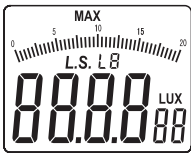

Figure 4
- Press and hold “MAX/MIN” key for a short time, “MAX” will appear on top LCD interface (as shown in figure 4).